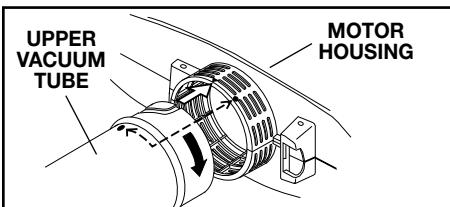

Fig. 8
3. Slide the upper vacuum tube into the motor housing. Turn the tube clockwise until the dot on the tube aligns with the dot on the motor housing (Fig. 8).